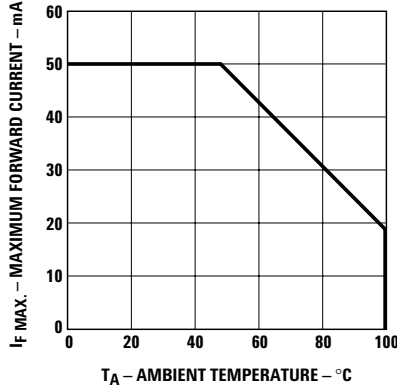

Figure 2. Forward current vs. ambient temperature.
1. Derate linearly as shown in Figures 2 and 7.